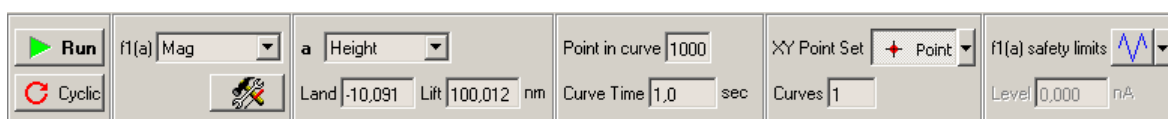

Fig. 1-12
2. In the control panel of **Curves** tab (Fig. 1-12) select **Mag** for the signal to be measured (**f1(a)** parameter) and **Height** signal as its argument (**a** parameter).